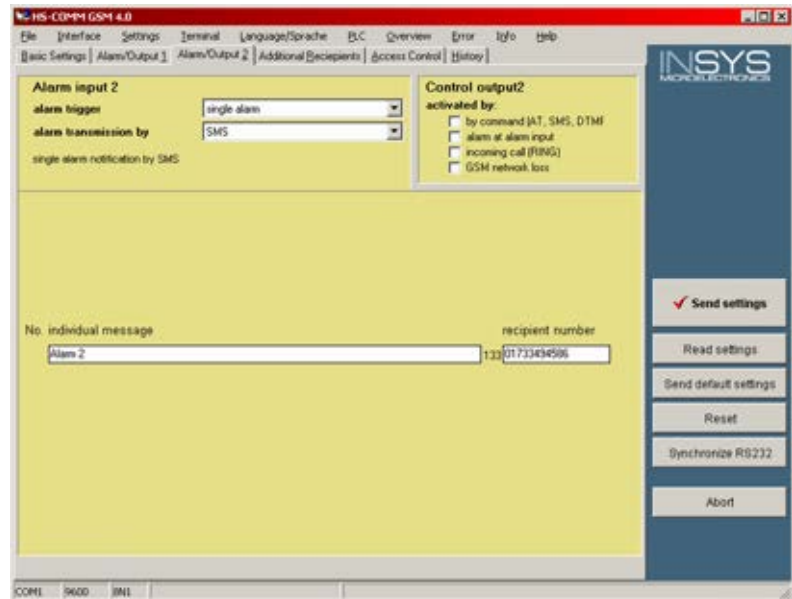

Fig. 181: GSM modem - alarm/output 2
3. Set up the modem as shown in (Fig. 181) on the "Alarm/Output 2" tab.